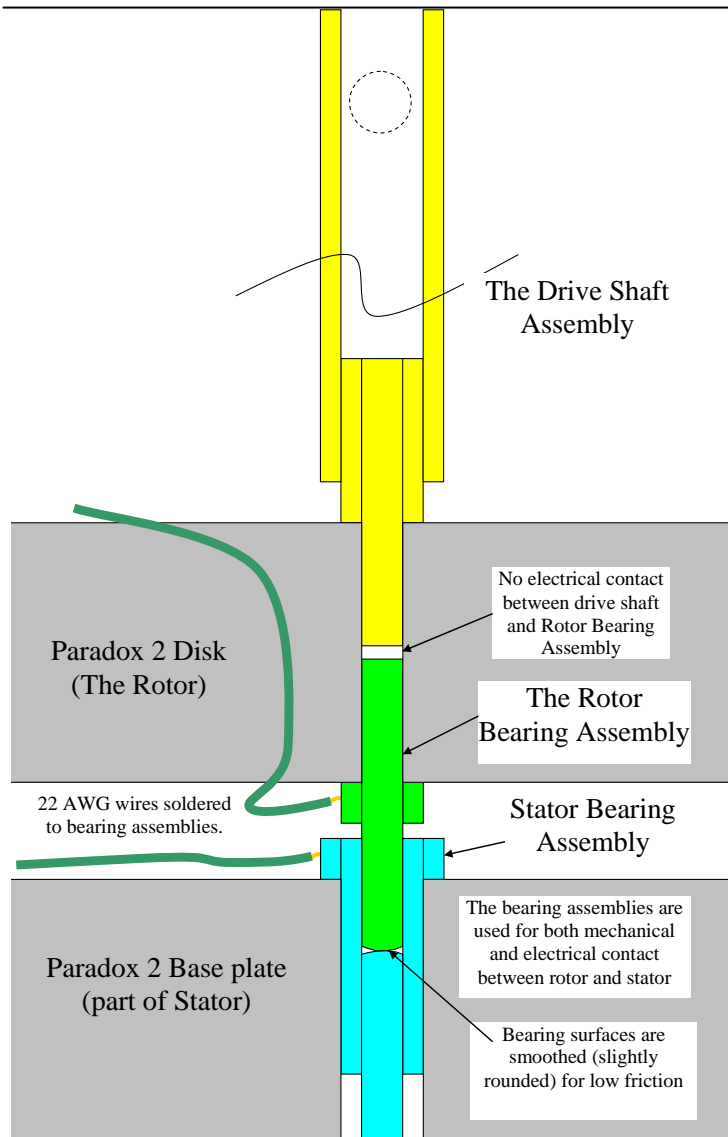
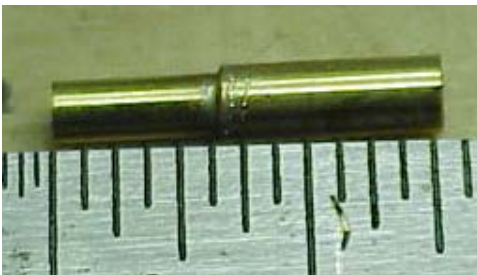

Figure 3-2: Shafts and Bearings cross sectional view
Figure 3-13: Drive Shaft Step 2
Figure 3-2 shows a cross section of the three finished parts and how they fit into the system. The driveshaft (yellow) connects the motor to the rotor; for all intents and purposes, it is the “upper axel” of the disk. The Rotor Bearing (green) is mounted in the bottom of the rotor (disk) and provides the “lower axel.” The Stator Bearing (blue) is mounted into the base plate; it provides the “socket” for the Rotor Bearing.
The drive shaft is constructed from parts (6), (7), and (8) of Figure 3-2.
- 1) Clean inside of part (7) and outside of part (6).
- 2) Place solder bead around end of part (6) and slide part (7) over (6) and apply heat. Make sure that 5/16 of part (6) remains exposed as shown in Figure 3-13. Let cool before continuing.